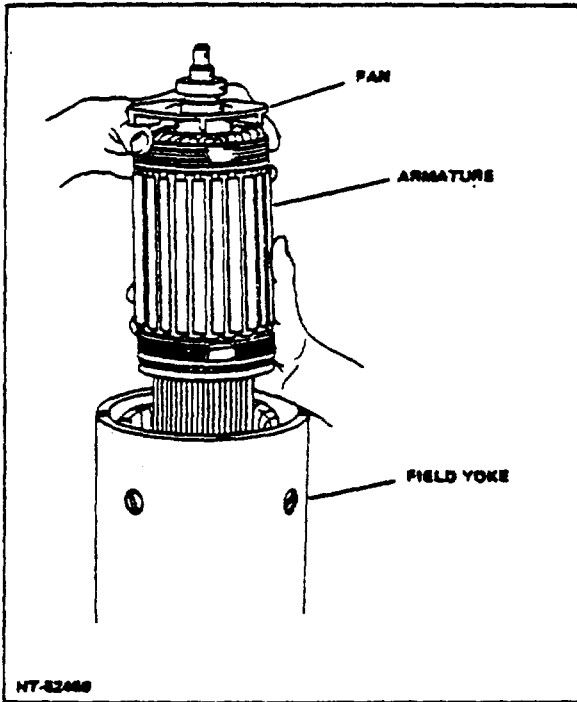

Figure 4-2. Removing Armature
5. Carefully remove armature assembly, complete with bearings, from field yoke assembly (Fig 4-2).